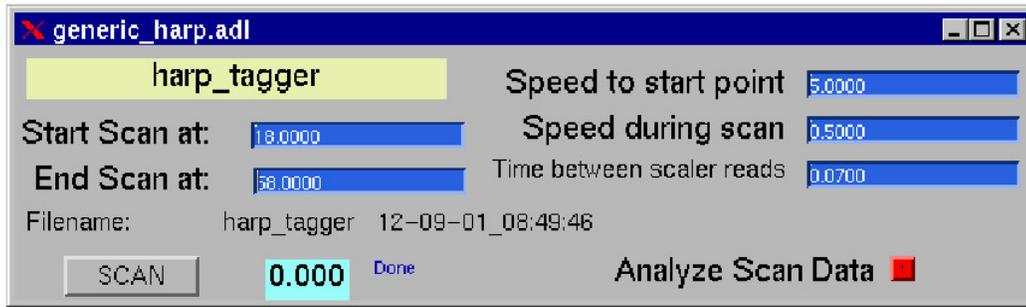

Figure 8: The tagger harp medm screen. This GUI controls a stepper motor and the halo counter scaler settings.
There are three wire harps on the Hall B beamline, 2C21, "tagger" (2C24), and 2H02A. The 2C21 harp has two 25 μm tungsten wires that cross the beam in horizontal (X) and vertical (Y) directions. The "tagger" and 2H02A harps have two sets of wires, thin and thick. There are three thin 25 μm tungsten wires, which cross the beam in X, Y, and 45° axis, and two thick 1 mm iron wires in X and Y directions. The harp launch GUI, Figure 7, enables operator to open control GUI for the desired harp. A stepper motor in conjunction with the beam halo scalers is used to perform a beam profile measurements. The harp operation is controlled from the Harp GUI, see Figure 8. During a scan the beam halo scaler GUI is controlled by the scan application (see Section 3.4).
A wire scan can be performed from the wire scan GUI (Figure 8) which is launchable from *clas epics*. Once the scan is completed, the collimator will move to “out” position.